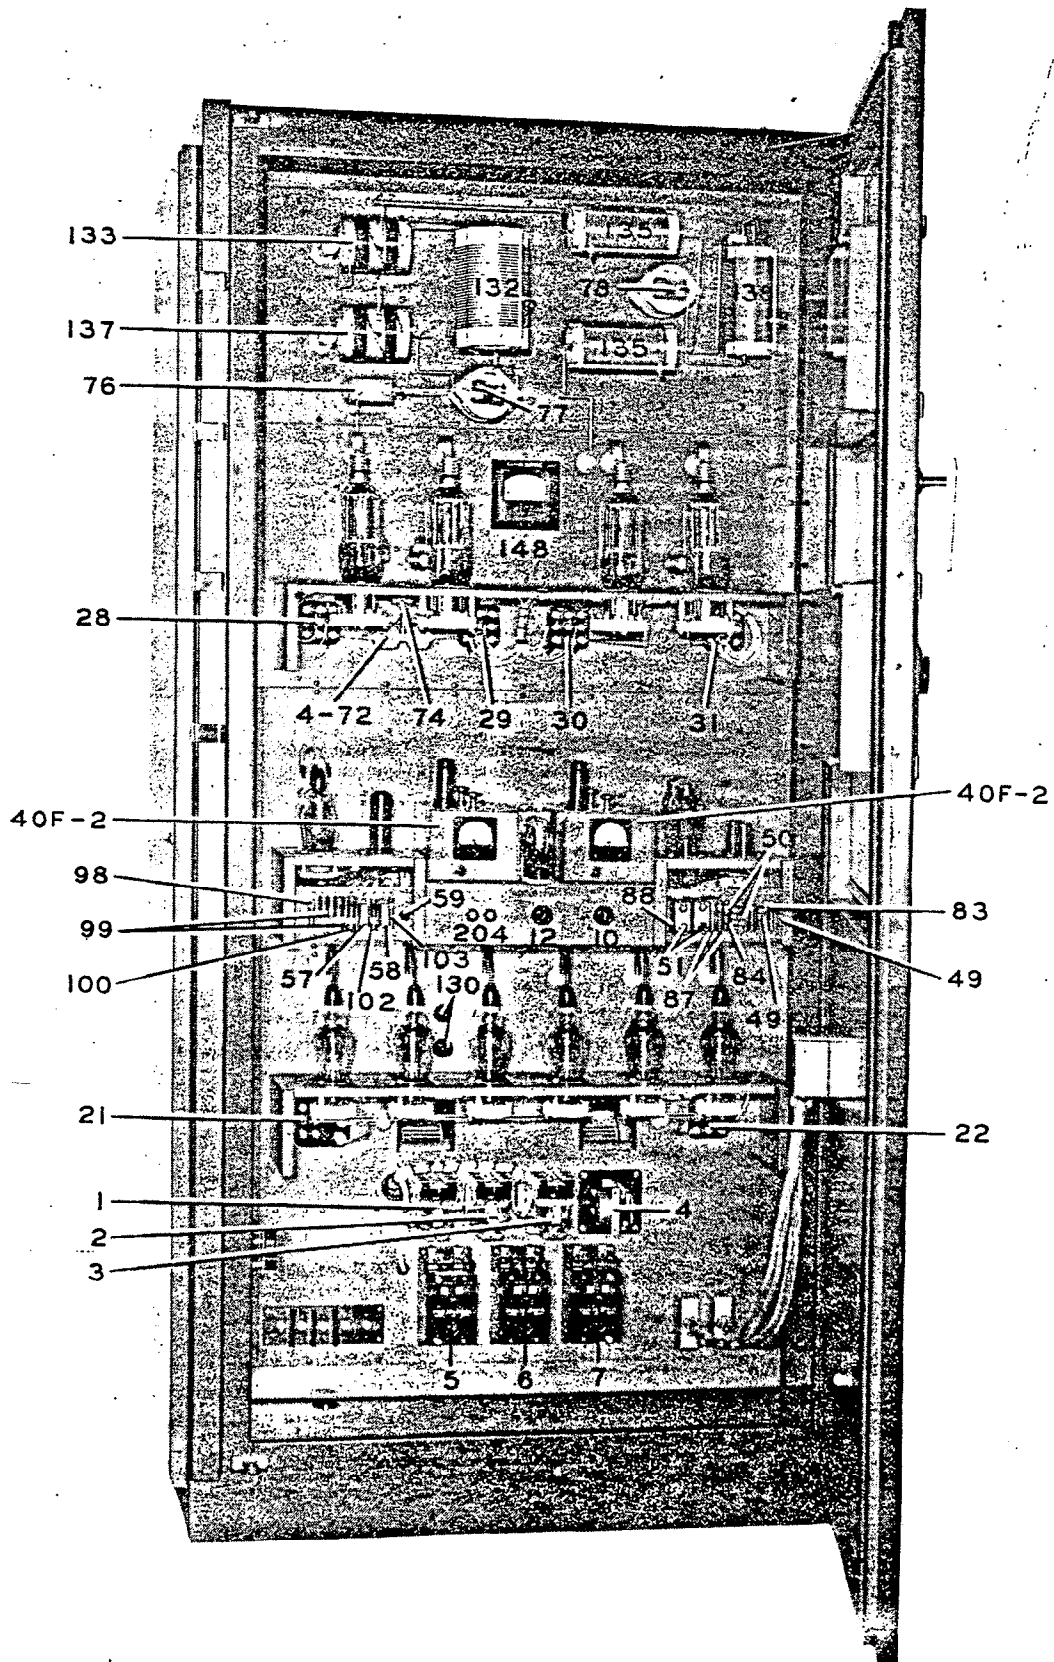

Figure 3-11. 300G Transmitter – Front Open View
(5) Press the Filament Power Stop button.
(6) Close the Low Voltage Supply circuit breaker, Item 7.
(7) Press the Filament Power Start button. When approximately 30 seconds have elapsed the time delay relay, Item 4, should operate. If the time necessary for the operation of this relay is not within 10% of the 30 second limit the time of operation should be adjusted. The relay, Item 4, is located on the lower front panel of the 401W Unit. (Refer to the photograph, figure 3-11, for exact location of the relay.) When operated the normally open contacts of relay, Item 4, complete the circuit necessary for the operation of the low voltage relay, Item 3. The low voltage transformer, Item 24, should now be energized.
(8) Close the High Voltage Supply Circuit Breaker, Item 6.
(9) Close the cabinet doors. Press the Plate Power Start button. The high voltage plate relay, Item 2, will operate and be held in the operated position through the door switches, the Plate Power Stop switch, the Filament Power Stop switch and the circuit breaker, Item 5. The high voltage plate transformer, Item 22, should now be energized.
Item 59, until the test meter indicates approximately 5 ma of grid current. Refer to figure 3-11.
6. Throw the low voltage supply circuit breaker to the OFF position. Refer to figure 3-11.